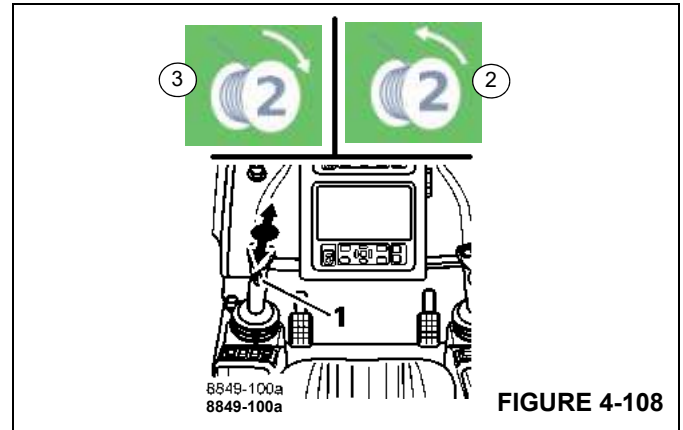

FIGURE 4-108
| Raising:  | Pull the control lever to the rear – symbol (3), (Figure 4-108) is displayed.  |
| Lowering: | Push the control lever to the front – symbol (2), (Figure 4-108) is displayed. |
When the hoist drum is turning, you will notice a pulse on the rotation indicator (1), (Figure 4-108).